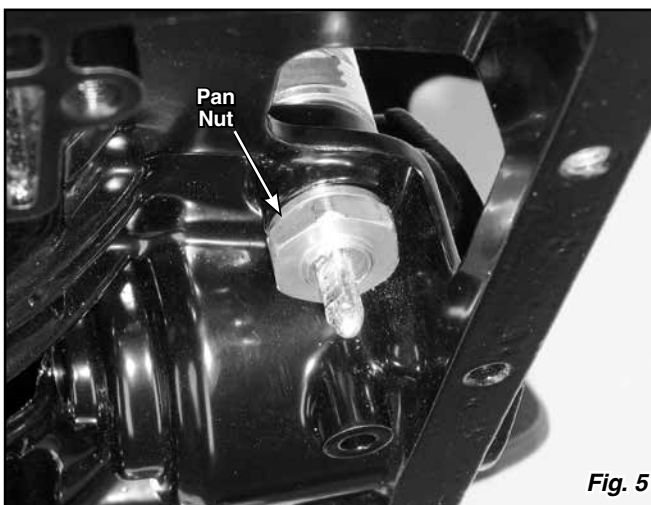

Fig. 5
Step 4: Remove the pan nut from the pan fitting. Lubricate the rubber grommet with clean transmission fluid. Install the pan fitting and rubber grommet (as received) into the transmission. (This should be a tight fit). Screw the pan nut onto the pan fitting and torque to 20 inch-pounds. **Do Not Overtighten! Fig. 5**